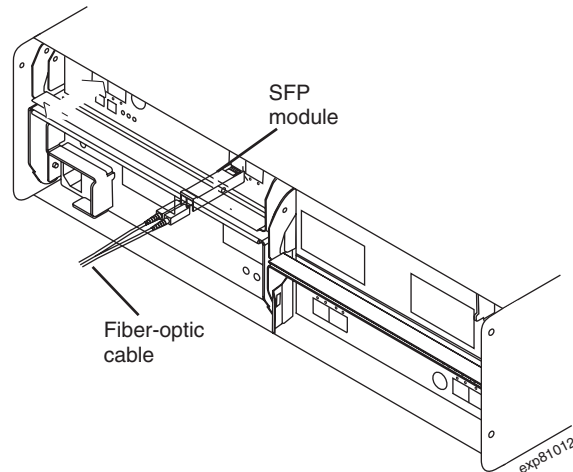

Figure 41. Installing an SFP module and connecting an LC-LC cable to the EXP810
3. Install an SFP module in the SFP port on the back of the EXP810; then, connect the other end of the LC-LC cable into the SFP module, as shown in Figure 41 on page 61.